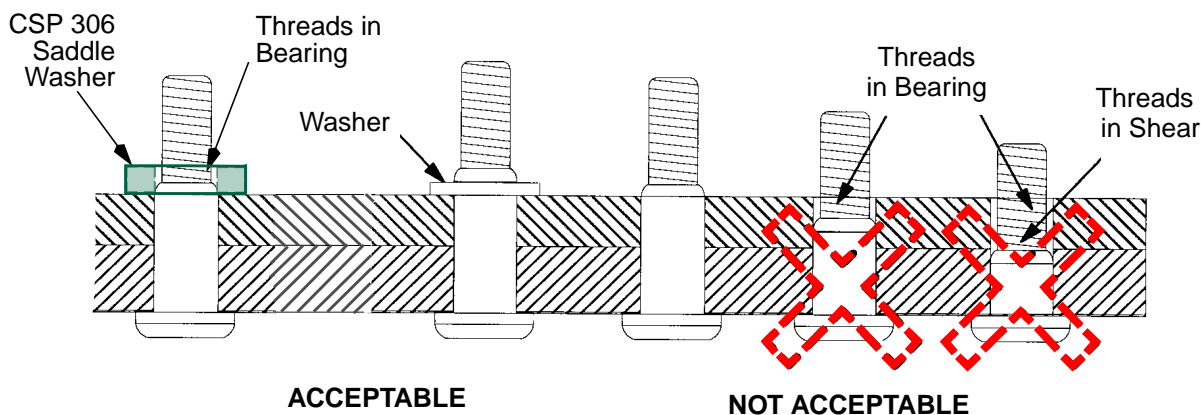

Figure 12 - Grip Length Verification
- 5.4.4 Except when using self sealing collars, if Hi-Lite pins of the correct length are not available, it is acceptable to use the next longer pin length, shimmed with the washer specified in Table 7, provided that the requirements of Figure 12 will be met. If necessary it is acceptable to use up to 2 washers to shim to a maximum combined thickness of 0.0625". Always place the washer, or washers, on the nut or collar side. Use the thinnest possible washer, or washers, which allow the requirements of Figure 12 to be met. Do not use washers under self sealing collars.
- 5.6.1 After the Hi-Lite pin has been fully seated, verify the grip length meets the requirements shown in Figure 12. Visually examine the pin to ensure the threads are located correctly as shown in Figure 12. Threads in bearing are acceptable in CSP306 saddle washers and in non-structural packers and brackets, such as attachment clips for electrical wiring and plumbing. Except when installing self sealing collars, it is acceptable to use up to 2 flat washers (see Table 7) to shim to a maximum combined thickness of 0.0625". Use the thinnest possible washer, or washers, which allow the requirements of Figure 12 to be met. If a self sealing collar is used, do not use a washer under the collar.